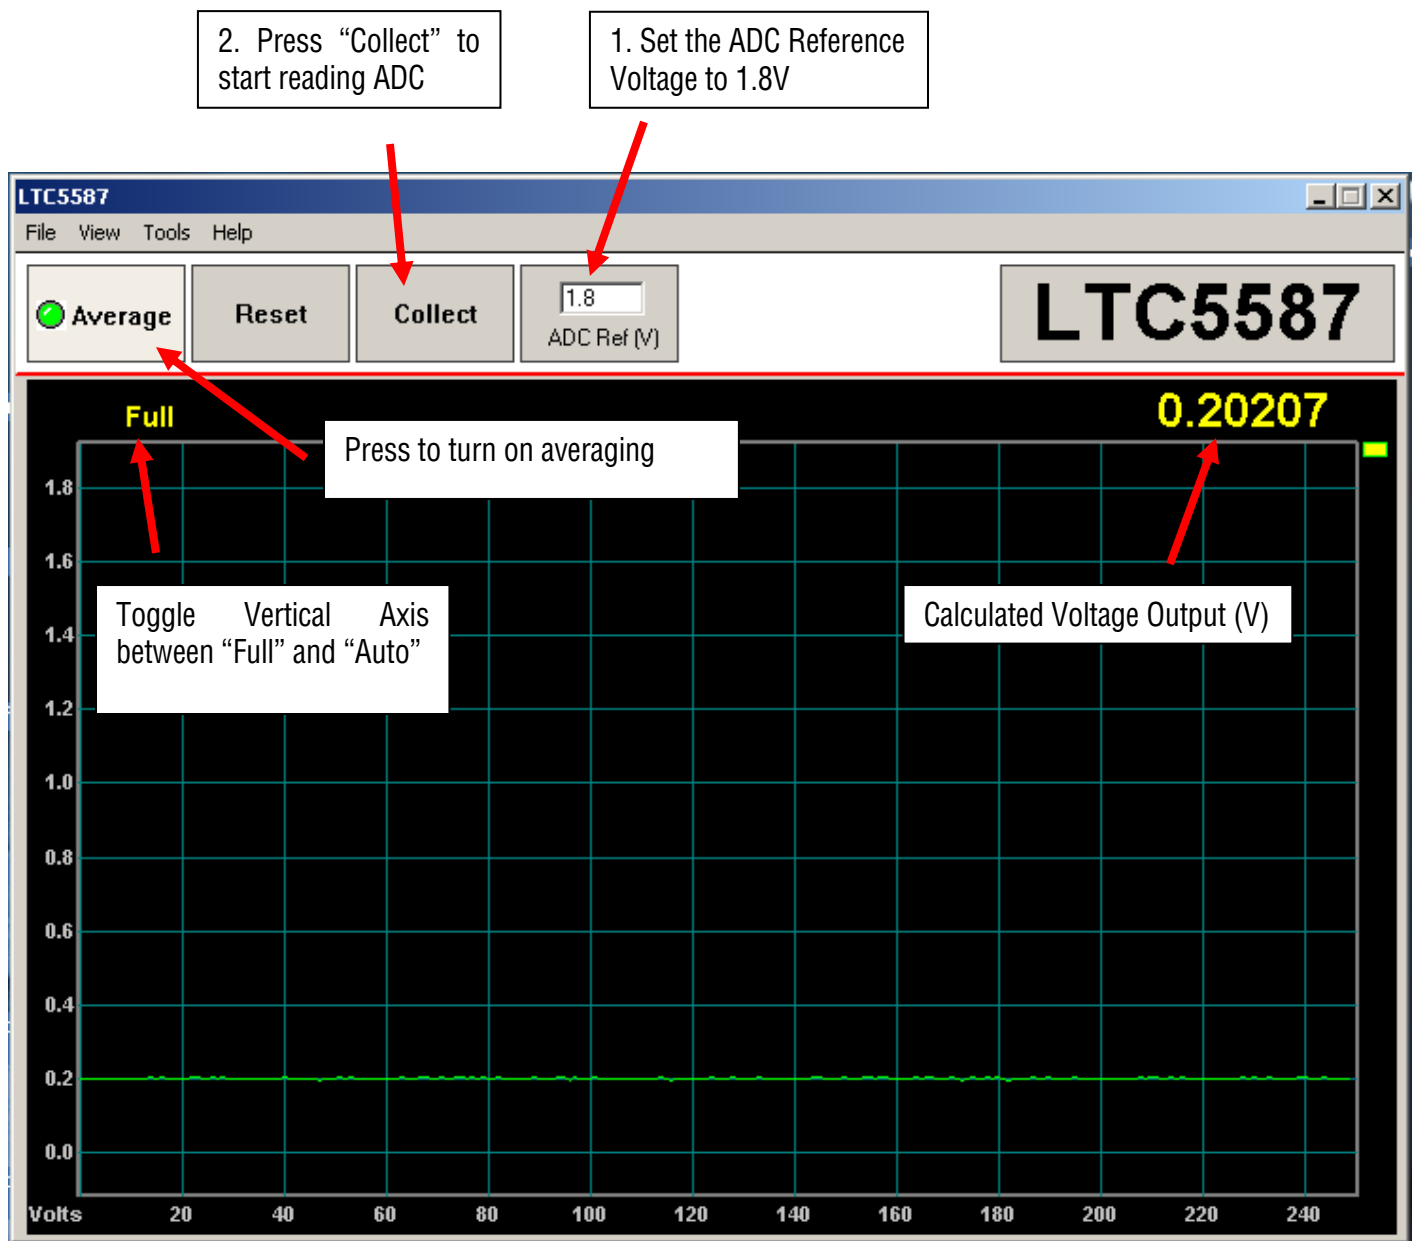

Figure 3. Front Control Panel for LTC5587. With no RF input signal.
11. Averaging Function can be turned on by clicking on the upper left hand corner on the front control panel, Figure 3.